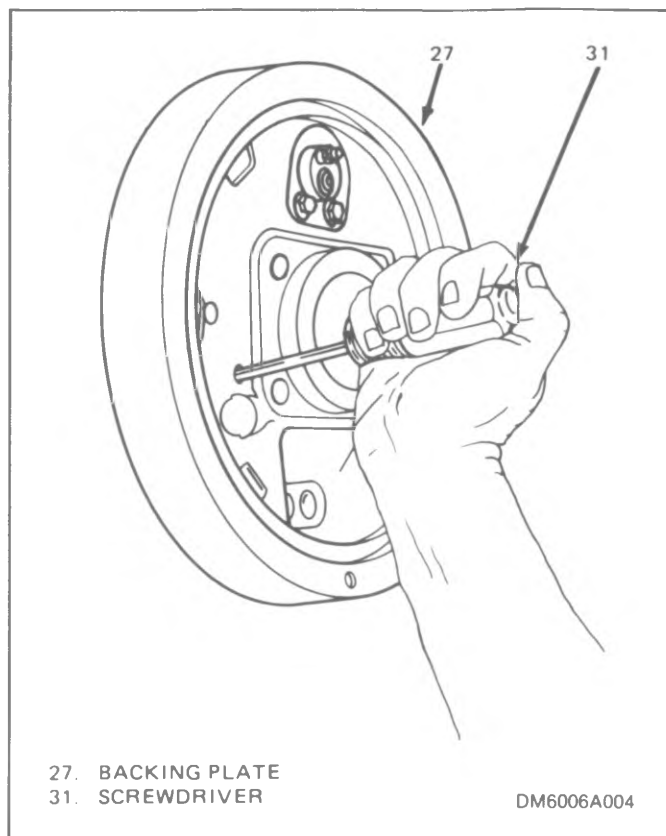

Figure 4-5. Retracting 1986 LeSabre, Delta 88 and Bonneville Brake Shoes
3. Position tip of screwdriver on the parking brake lever and push it off its stop (see figure 4-5). This will allow the shoe and linings to retract slightly.